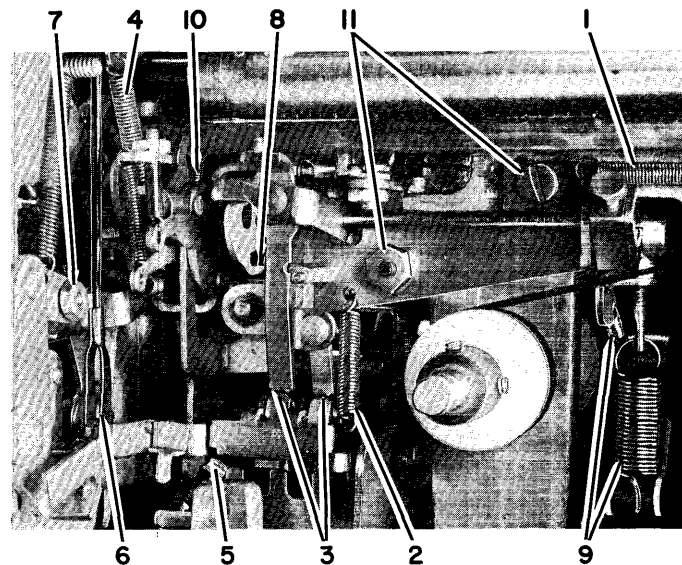

Figure 48. Operational Latch Bracket Removal
5. Disconnect the backspace-rack spring (#1, Figure 48).
6. Disconnect the cam-follower spring (#2, Figure 48).
7. Disconnect the spacebar and tab-latch springs (#3, Figure 48).
9. Disconnect the detent spring (#4, Figure 48).
10. Disconnect the carrier-return latch spring (#5, Figure 48)
11. Remove the index-selection link (#6, Figure 48).
centric nut (#7, Figure 48).
13. Remove the escapement link (#8, Figure 48).
14. Disconnect the carrier-return actuating spring and carrier-return actuating-arm spring (#9, Figure 48).
15. Remove the escapement-torque-bar restoring spring (#10, Figure 48).
16. Remove the two mounting screws (the left one is not visible) and one nut (#11, Figure 48).